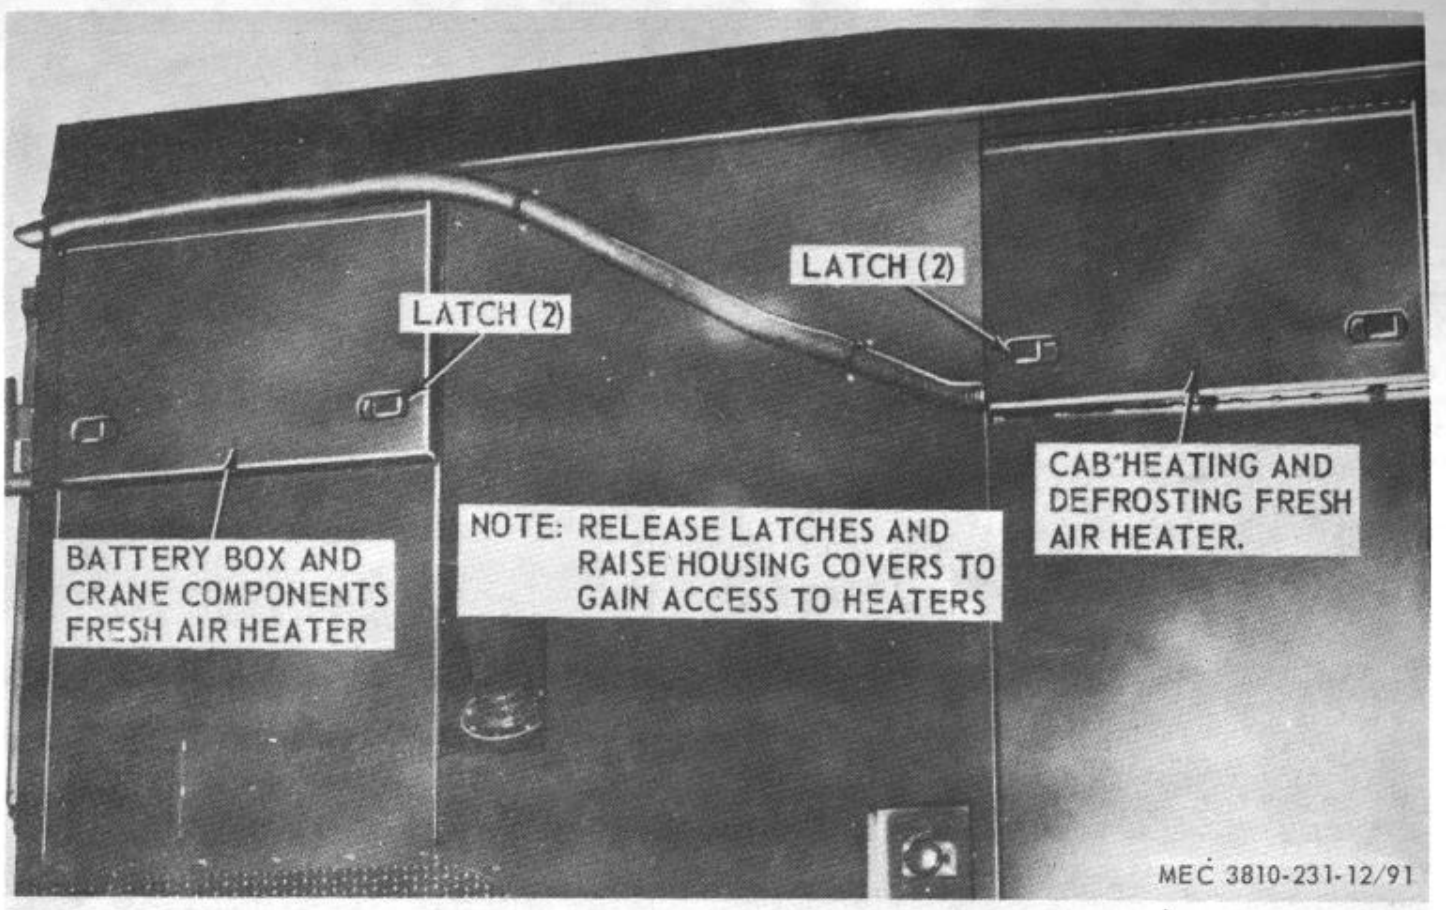

Figure 91. Cab or component fresh air heaters
a. The two cab and component heaters are installed on right hand side of crane upper section (fig. 91). Heater installed near center of cab right side is used primarily for cab heating and defrosting. Heater installed at rear of cab right side provides heat for propel clutch, engine clutch housing, torque converter, and battery box.